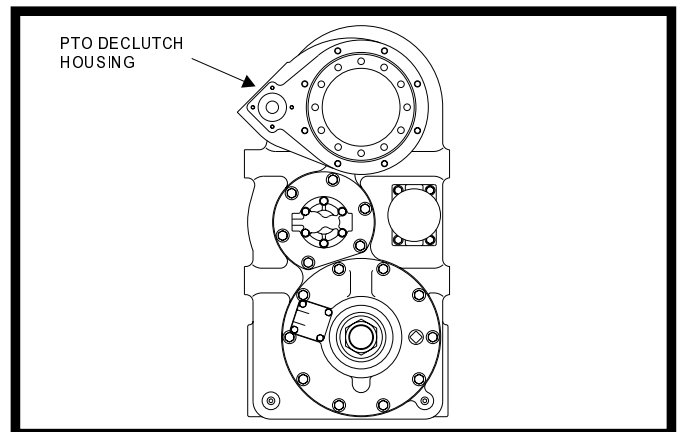
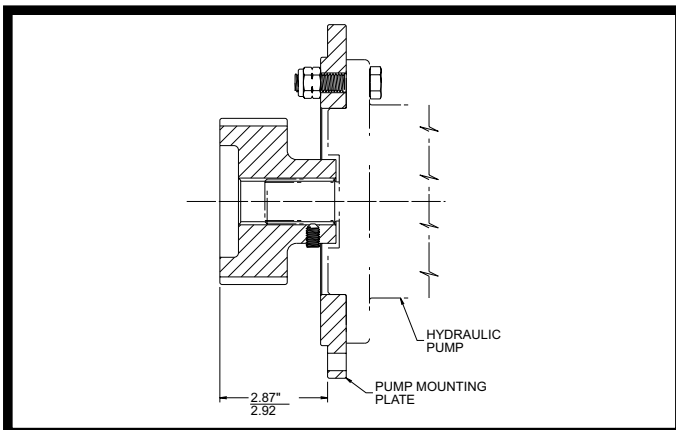

Fig 67
Fig 68
3. Insert the rear bearing cup into its bore. Using the original shim pack, position the PTO declutch housing on the transfer case such that the shifter shaft bores are directly to the left of the upper shaft bore (as viewed when the unit is installed in the vehicle). See Figure 67. Install the (6) 12-point cap screws and torque to specification.
3. Insert the rear bearing cup into its bore. Using the original shim pack, position the PTO declutch housing on the transfer case such that the shifter shaft bores are directly to the left of the upper shaft bore (as viewed when the unit is installed in the vehicle). See Figure 67 above. Install the (6) 12-point cap screws and torque to specification.
6. Mount the hydraulic pump to the pump mounting plate. Note that the lubrication fitting hole in the plate must be on top when mounted to the transfer case as installed in the vehicle. To prevent an oil leak, use a thin film of anaerobic sealing compound (Loctite 504 “Gasket Eliminator” or equivalent) between the pump and the plate. Tighten the (4) mounting bolt nuts to specification.
7. Install the pump drive gear on the pump shaft. See Figure 68 for correct positioning. Tighten the two set screws to specification.
8. Place a new gasket on the declutch housing and assemble to hydraulic pump and mounting plate assembly to the declutch housing. The lubrication fitting hole in the pump mounting plate should be toward the top of the transfer case as installed in the vehicle. Install the (8) cap screws and washers. Torque to specification.